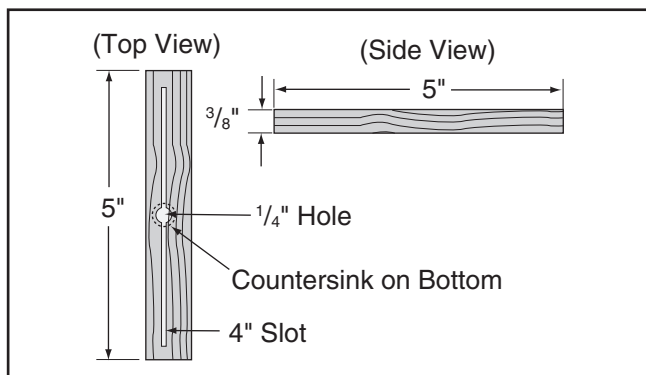

Figure 92. Miter bar pattern.
5. Cut a miter bar that will fit in the table miter slot approximately 5" long, as shown in **Figure 92**.